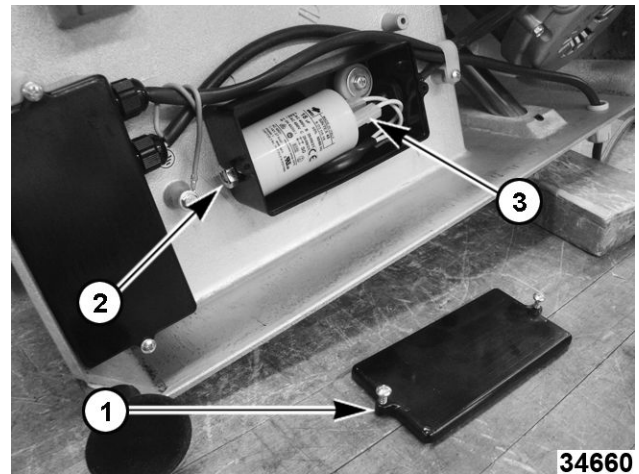

Fig. 12
5. Remove that capacitor box cover (1, Fig. 12).
6. Remove the nut and lockwasher (2, Fig. 12) securing the capacitor to the capacitor box.
8. Disconnect capacitor lead wires (3, Fig. 12).